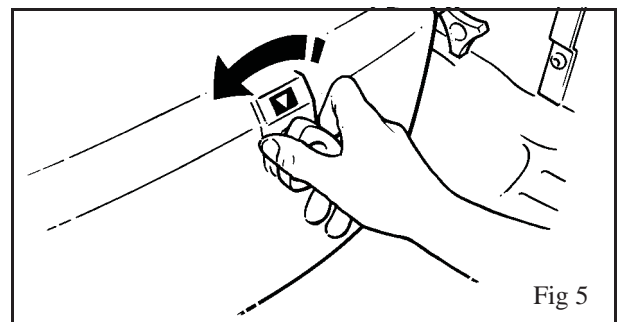

Fig 5
**System failure lower override:-** This can be used in the event of main control failure. In the unlikely event that the hand control or dual control panel fails to operate the lift, with a patient still supported by the sling, provision for lowering has been made, using the "lower override knob", situated on the right hand side of the main cover. A label situated above the switch. (See Fig 5)
1. To operate the lower override, turn the knob anti clockwise half a turn. (See Fig. 5)